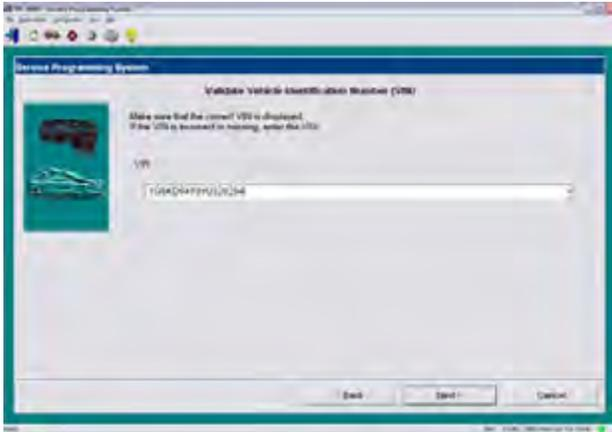

Figure 2.16: Validate VIN Window
- 10 An SPS warning message may appear to warn that you must input the VIN number. If so, click the **OK** button to continue. This displays the Validate VIN window (Figure 2.16 on page 20).